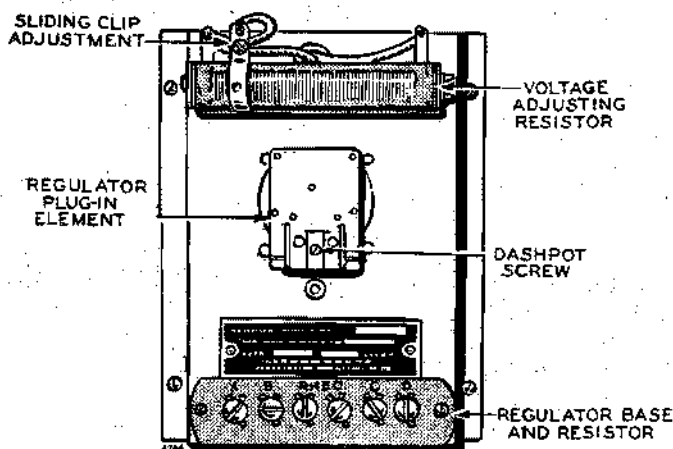

FIG. 21. - REGOHM VOLTAGE REGULATOR
6. Set the adjustable resistor, which is mounted either separately or on the regulator base, see Figure 21., to obtain the rated a.c. voltage. Very little movement of the sliding clip will be necessary. Be sure to retighten the clip after the adjustment is completed.
REGOHM VOLTAGE REGULATOR DASHPOT ADJUSTMENT. - If a hunting voltage condition exists, after the Governor has been adjusted, the Voltage Regulator dashpot must be adjusted. See the illustration, Regohm Voltage Regulator Adjustments, shown in Figure 21.